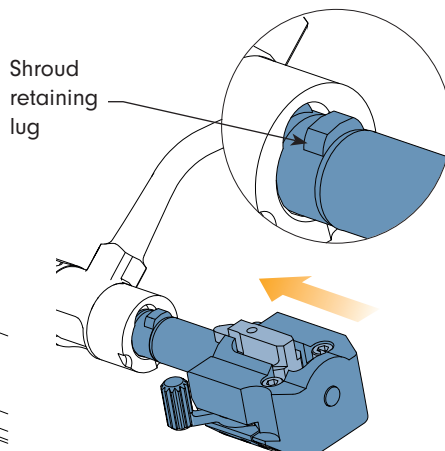

Fig 3-3
- To reassemble the bolt, insert the shroud assembly into the bolt body, aligning the shroud retaining lug with the corresponding opening in the bolt body (see Fig 3-3).